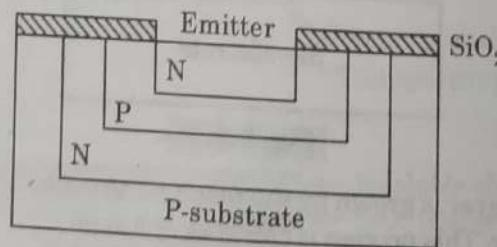

Fig. 5.23.5.
5. After that the oxidation, the photoresist and masking process is repeated. This creates windows in the silicon dioxide layer as shown in Fig. 5.23.8. The next is to introduce impurities such as phosphorus by similar diffusion process i.e., N -type emitter is now diffused into the base of p -type layer as shown in Fig. 5.23.5.